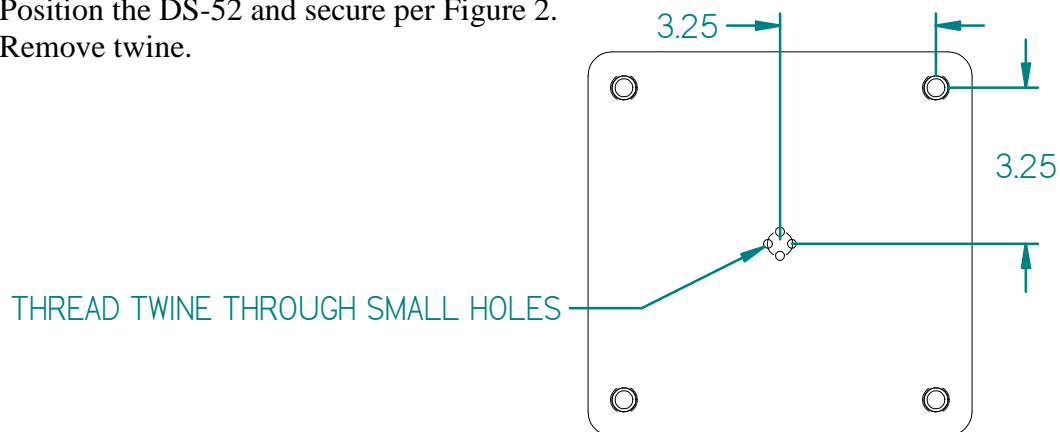

FIGURE 1
1. After the holes have been drilled for the DS-52 Base drill one additional hole in the floor pan at the center of the hole pattern. (Figure 1)